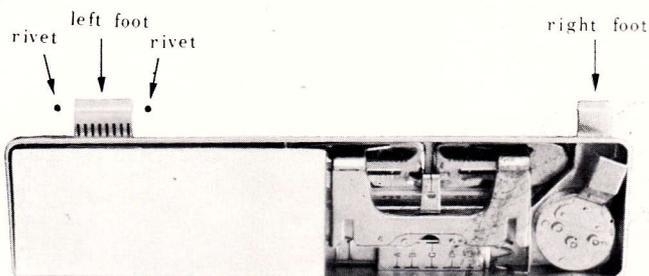

Fig. 84
- k) Replace the parts box on the right side of the knitter. The right foot must be placed on the non-needle part and left foot must be placed between two ribets on backward of the knitter, then the butts of the needles fit in the holes of the left foot of the parts box. (See Fig. 84)